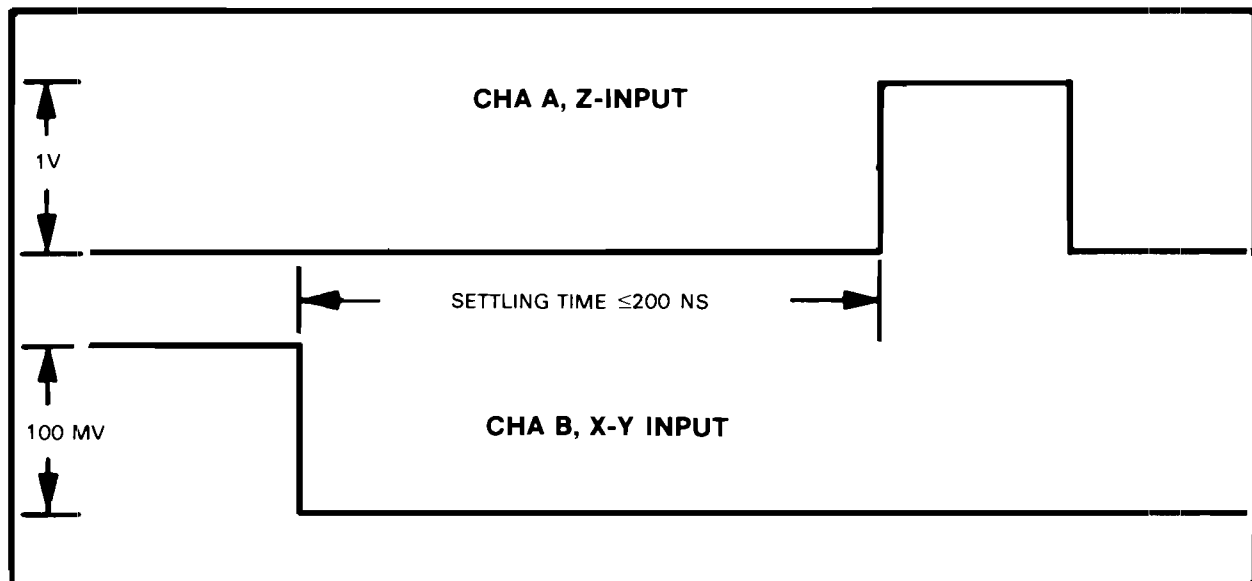

Figure 4-9. Settling Time Measurement with 100 mV Input
- m. The time difference measured between pulses on monitor oscilloscope must be less than 200 ns. (See figure 4-9.)